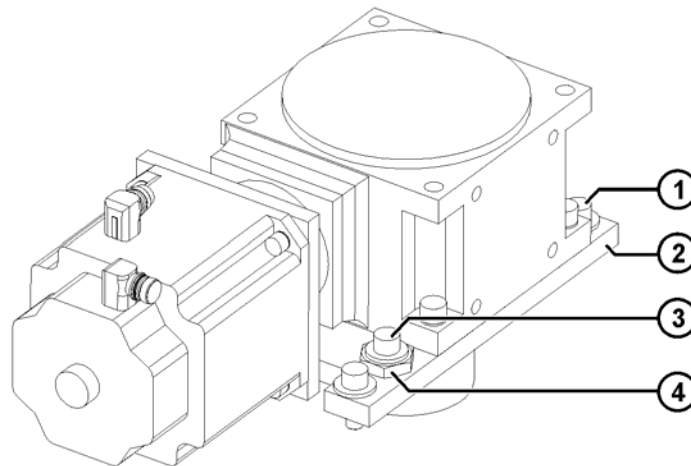

Fig. 10-4: Intermediate plate
1. Slacken the three M16x45-10.9 Allen screws (>>> Fig. 10-4) (1) and the M16x55-10.9 Allen screw (3).
5. Tighten the M16x45-10.9 Allen screws (1) and the M16x55-10.9 Allen screw (3) with a tightening torque of $M_A = 250 \text{ Nm}$.